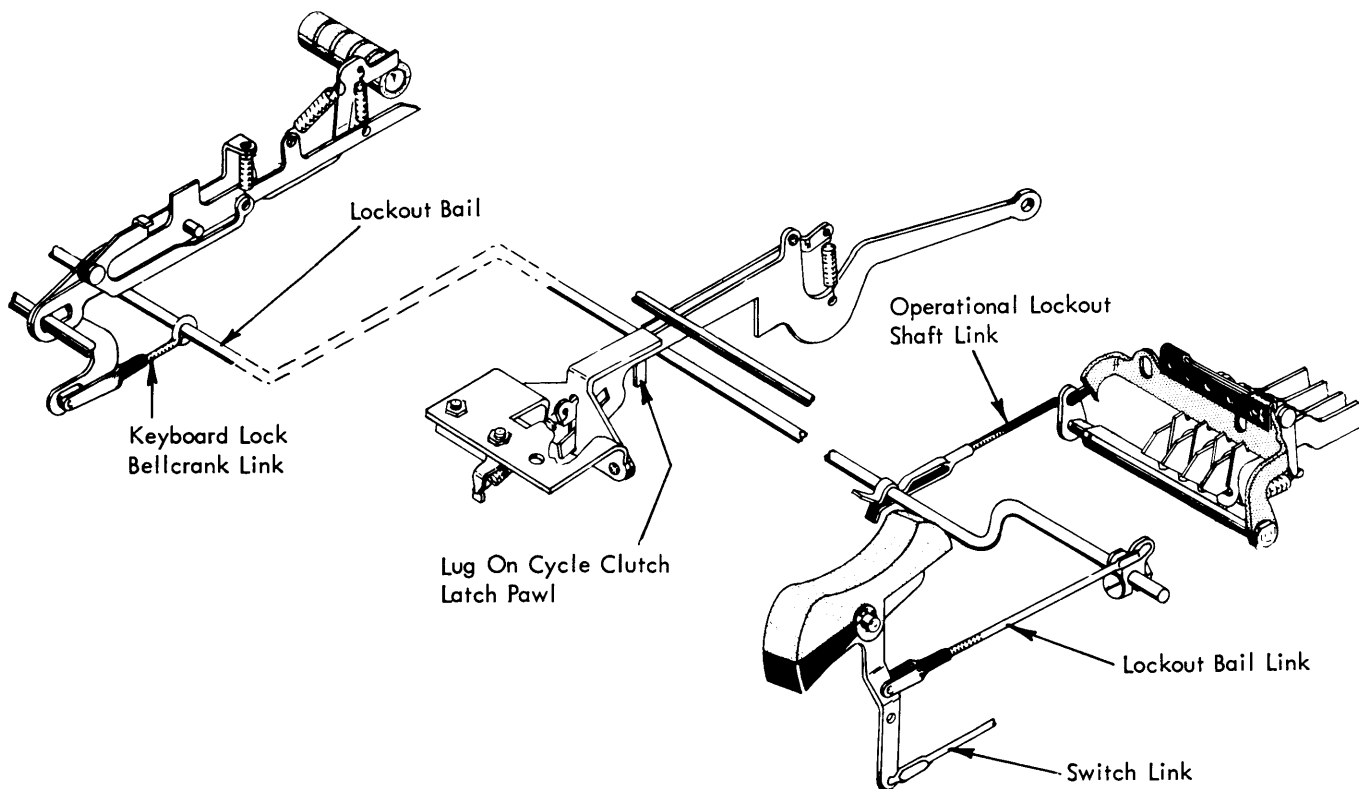

FIGURE 19. Keyboard Lock Mechanism
17. Switch Link - Adjust the switch link so that the front of ON/OFF keybutton is 1/16" above the sideframe in the OFF position (Fig. 19).
18. Lockout Bail Link - Adjust the link so that the bail is centered under the lug of the cycle clutch pawl with the switch in the OFF position (Fig. 19). Be sure that the lockout bail bellcrank has equal over-center motion.
19. Lockout Bail Bracket - With the switch in the OFF position, adjust the bracket at the left end of the lockout bail vertically to provide .005" to .010" clearance between the bail and the lug on the cycle clutch latch pawl (Fig. 19).
20. Keyboard Lock Bellcrank Link - Adjust the link so that the bellcrank is fully bottomed in the selector compensator without choking off the action of the lockout bail (Fig. 19).
21. Operational Lockout Shaft Link - With the switch in the OFF position and the operational lockout shaft link fully forward, adjust the clevis to match the keyboard lockout bail position (Fig. 19).